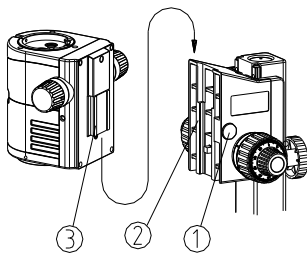

Fig. 4
1) Remove the decorative cover ① of the focus bracket group, and loosen the M4 inner hexagon screw with a M4 inner hexagon spanner. (See Fig. 4)
2) Match the dovetail interface ③ of the microscope body with the dovetail groove ② of the focus bracket group, and insert it from top to bottom as the direction shown in the figure.
3) Tighten the M4 inner hexagon screw on the focus bracket group with a M4 inner hexagon spanner, then put the decorative cover ① back.